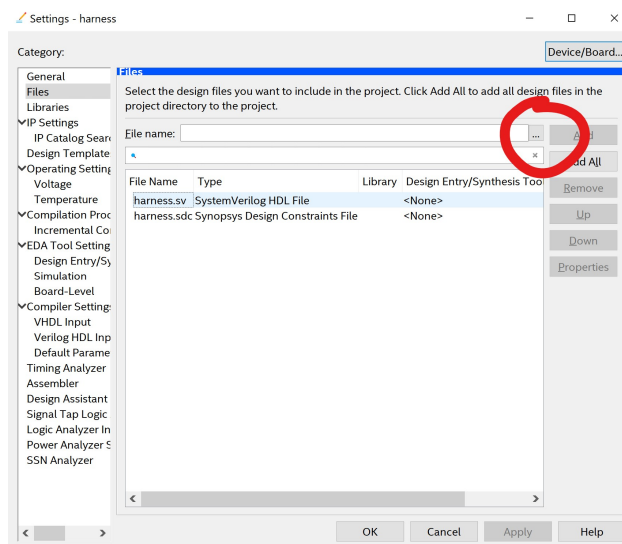

Figure 3: Adding files to Quartus project.
2. Go to *Project* → *Add/Remove Files in Project...* and click the ‘...’ icon to browse for files (see figure 3). Select the file(s) containing your processor implementation. The files should then be listed with the **harness** files. Click OK.